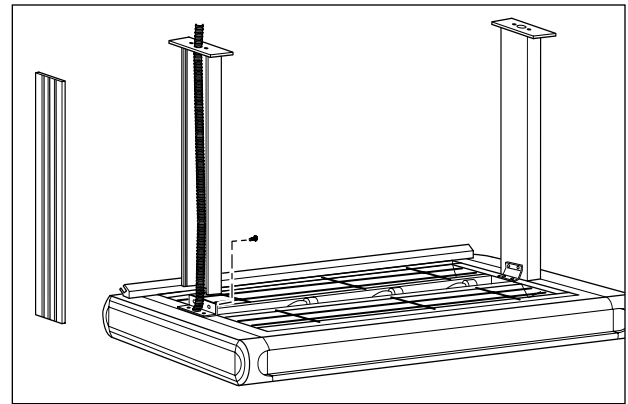

Figure 5. Assembling Tubular Stand To Unit
6. See Figure 5. Position unit onto mounting surface. While holding unit in place, use the flange mounting holes as a template and mark the holes on the mounting surface. Remove the unit and drill the mounting holes.